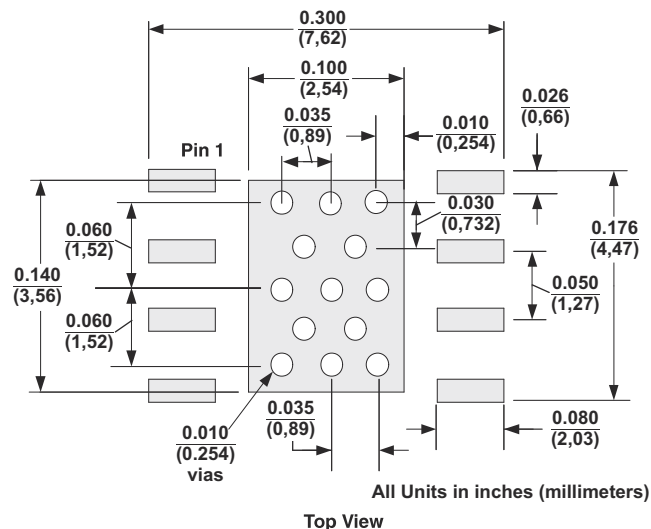

Figure 9-7. DDA PowerPAD PCB Etch and Via Pattern
1. Figure 9-7 shows a PCB with a top-side etch pattern. Place an etch for the leads as well as etch for the thermal pad.